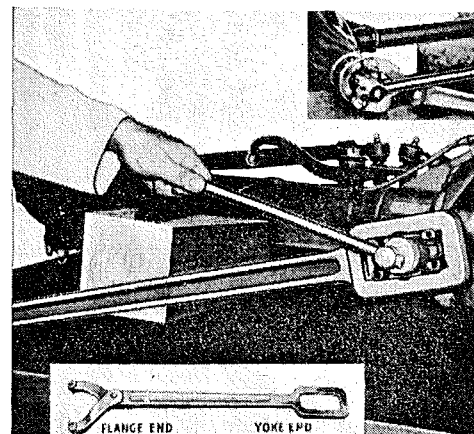

FIG. 140—FLANGE HOLDING WRENCH
d. Should the spreader tool be unavailable, use two pry bars, one on each side of the differential case opening, to pry out the differential. Insert the tip of the bars in the differential case flange halves (6) and pry against the housing (14).
e. To remove the drive pinion, first remove the universal joint end yoke assembly (21). Use Tool C-3281 to hold the shaft, as shown in Fig. 140, while removing the nut. Use Puller, Tool W-172, to remove the end yoke as shown in Fig. 141.